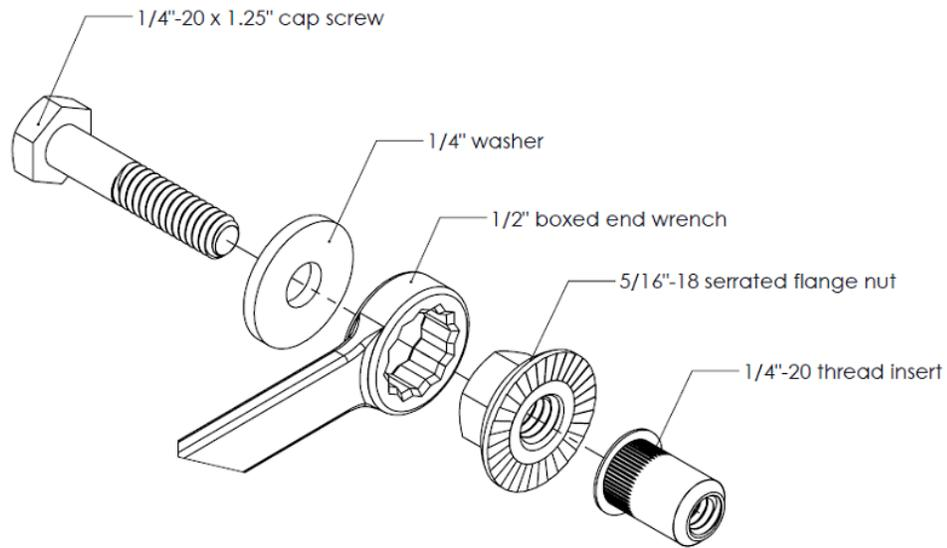
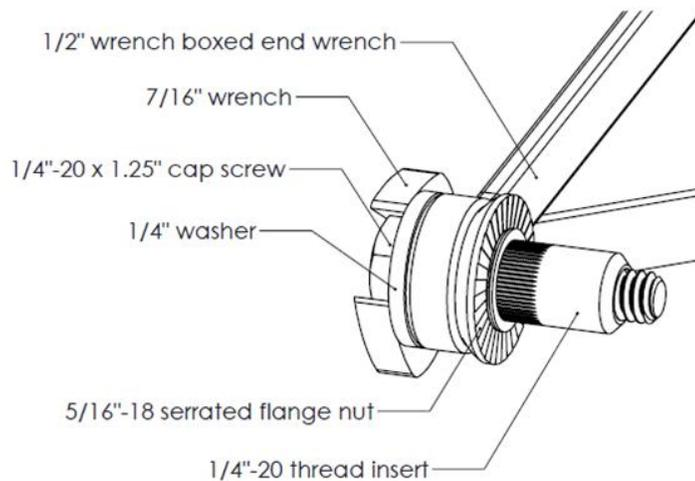

Figure 2: Threaded Insert, Parts/Tools Required
Figure 3: Threaded Insert, Hand Tightened
- C. If you have access to a nutsert gun or pliers, that may be preferable to set the provided threaded insert. Otherwise, using the items in Figure 2, and a 1/2" box end wrench, arrange them as shown and turn the 1/4"-20 screw by hand until it is snug as shown in Figure 3.
- G. Assemble the 5/16"-18 hex screw, 5/16" flat washer, a 9/16" boxed end wrench, the 3/8" serrated flange nut and threaded insert the same way as in Figure 2.